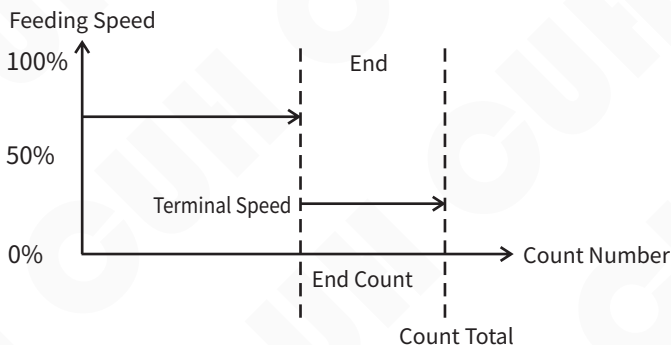

Figure 4.6.3
**Terminal Speed**, means that when counting enters the final deceleration state, the controller's feeding speed and voltage will drop to the percentage of the initial speed and voltage, see Figure 4.6.3.